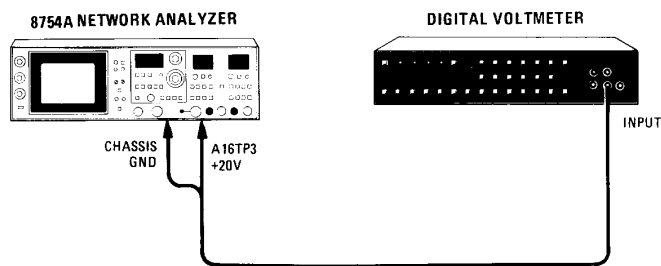

Figure 5-1. Low Voltage Power Supply Adjustment Test Setup
The +20V supply is adjusted for correct output and the remaining low voltage supplies are checked. The +6V and -6V reference supplies are adjusted for correct output. Figure 5-1 shows the Low Voltage Power Supply Adjustment Test Setup.
- a. Connect equipment as shown in Figure 5-1. Connect digital voltmeter to A16TP3 +20V.